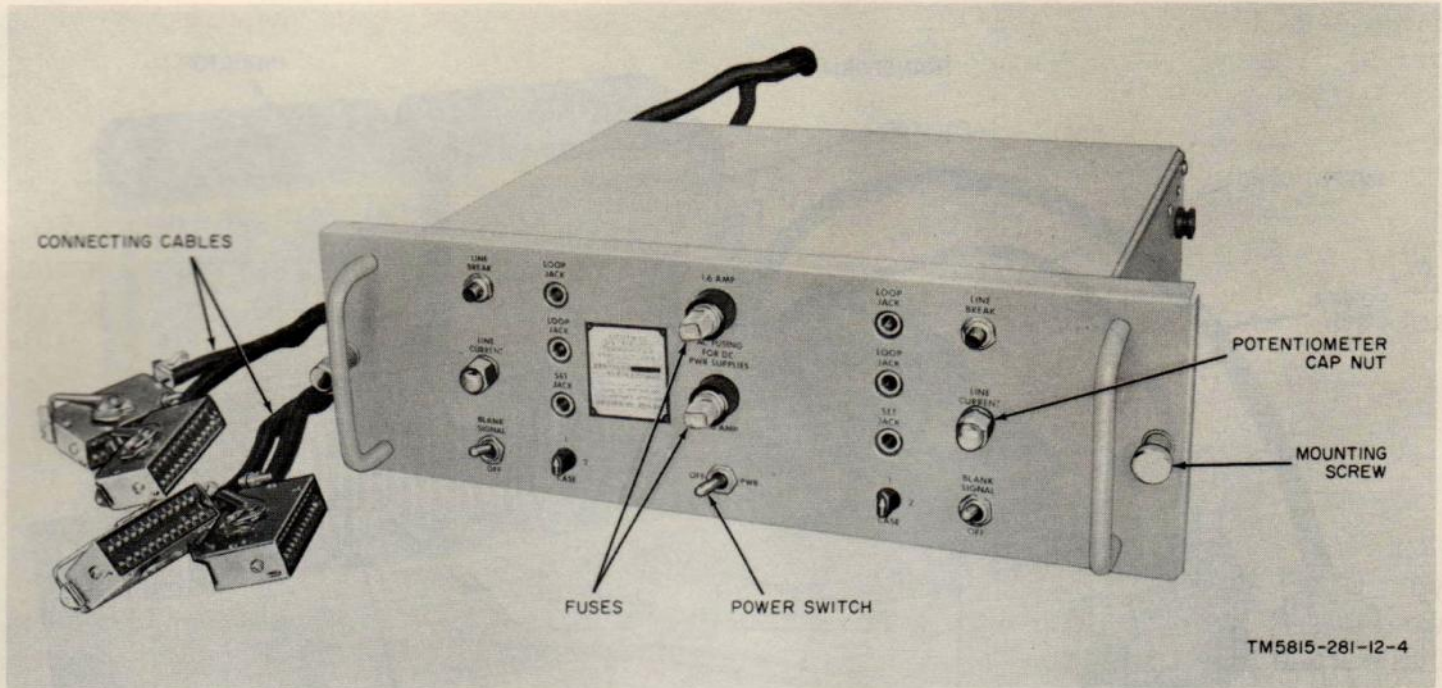
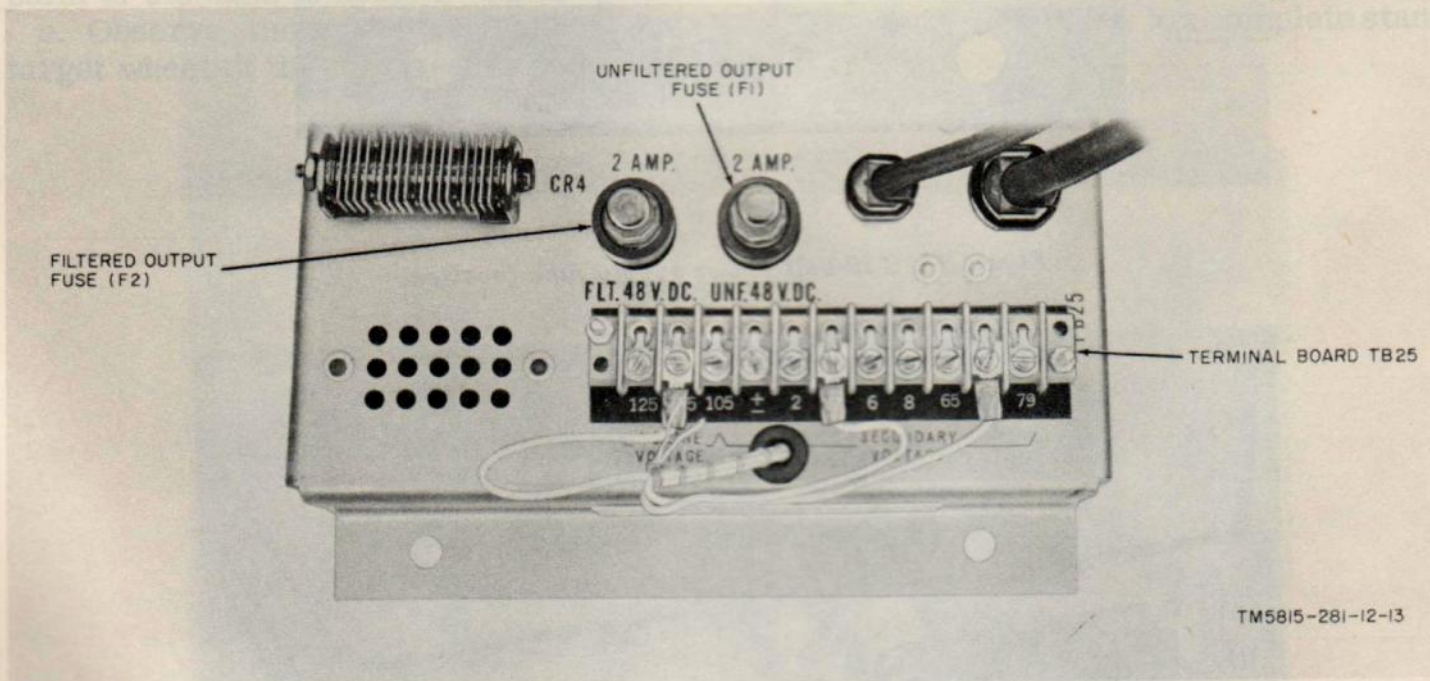

Figure 4. Control, Distributor-Transmitter, Teletypewriter C-3873/GGC-9.
Figure 13. 48-volt power supply fuse locations.
(fig. 4)
- (2) Set the control base power switch (fig. 4) to OFF.
- (3) Use a voltmeter and check the voltage at the ac source.
- (4) Remove the cover from terminal board TB25 (fig. 13) on the 48-volt power supply. Check to see that the white ac line voltage on the terminal board is connected to the terminal (105, 115, or 125) that corresponds most closely to the voltage reading obtained as
- (5) Insert the plug of the ac input cable on the control base (fig. 10) into the ac power source. Set the control base power switch at PWR (fig. 4), to energize the 48-volt power supply.
- (6) Disconnect jack J29 from plug P29. Check the direct-current (dc) output across pins F and G of plug P29. The correct no-load output reading is 54 volts. If adjustment is necessary, turn the power switch on the control base to OFF before adjusting the output ((7) and (8) below).
- (7) The dc output is adjustable. Coarse adjustments are made by moving the yellow lead connected to 79, 72,